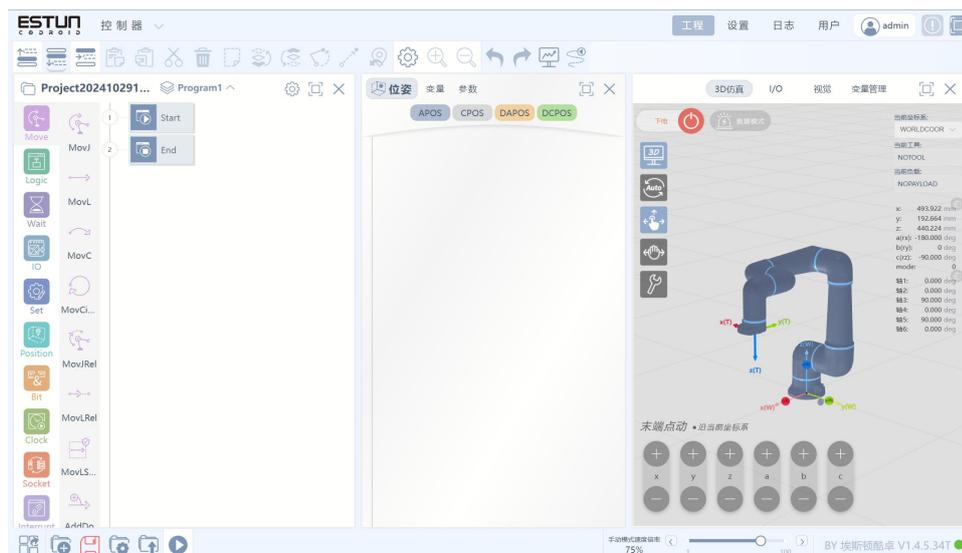

Figure 3-13 Main interface-
7. As shown in Figure 3-13, the main interface indicates that the robot is powered on successfully, and then the robot can be controlled to move.-